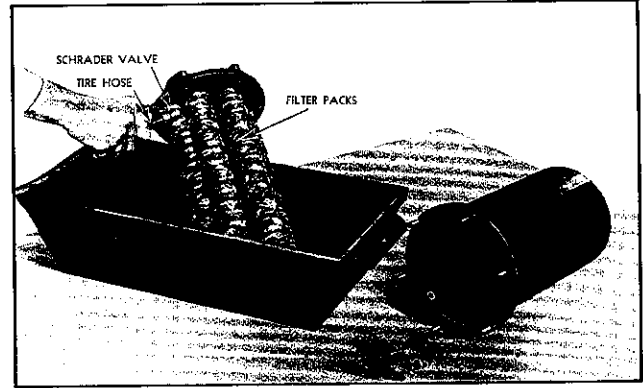

Fig. 19—Cleaning Lubricating Oil Filter Packs with Schrader Connection.
3. (a) When air pressure is available, attach Schrader connection with a clip to the small oil outlet on the underside of the pack head, which is located between the filtering packs. Allow the air to blow through the filtering packs at least five or ten minutes. The cake of impurities will slide off the packs. When white foam appears the entire length of the packs, they are clean, and have been subjected to blowing for a sufficient length of time. (See Fig. 19.)